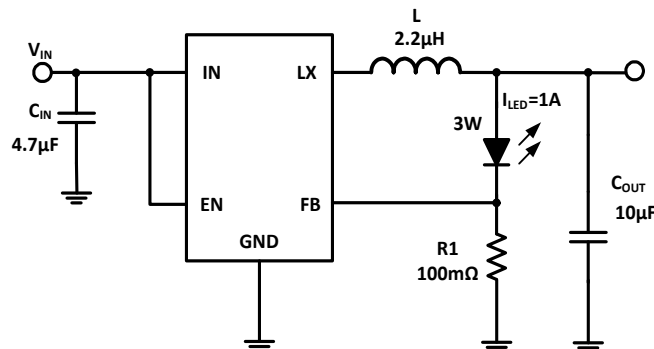

Figure 1. Typical Application Circuits
Figure 1 shows the basic application circuit for the PAM2804AAB010(MS). LED drive current of the PAM2804AAB010(MS) can be externally programmed by resistor R1. The external resistor sets the LED current according to the following equation: